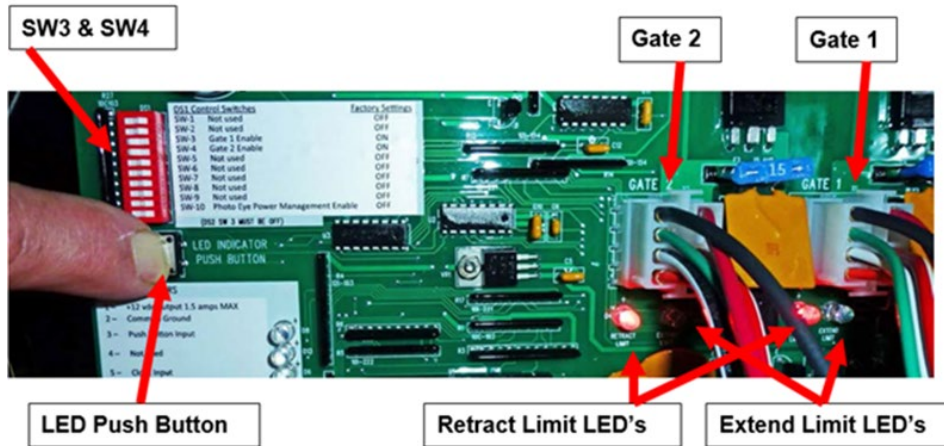

Figure 3 – NR Control Board
- 2.3 Each gate should be tested individually. Disable gate 2 (See Figure 3) by turning to dipswitch SW 4 to the off position.